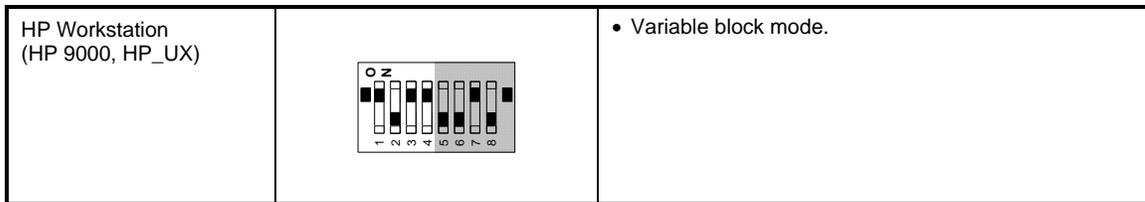

Figure 2-4 AIT-1, AIT-2 and AIT-3 Tape Drive DIP Switch Settings
- DIP switch numbers 1-4 determine System Compatibility with certain host computers. See Figure 2-4 and Chapter 5 (Application Notes) of this manual.
In Figure 2-4 switches 1-4 determine system configuration only. Switches 5-8 control operation as given in Sections 2.2.2 and 2.2.3.